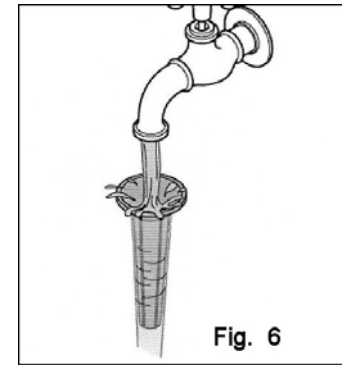

Fig. 6
2. If you have difficulty fitting the casing end on the Cone, hold case end under running water faucet, then slide over end of cone (Fig. 6).